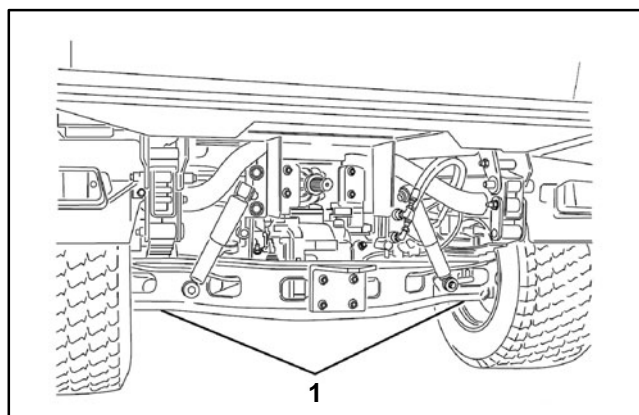

Figure 2
4. The jacking point at the rear of the vehicle is under the axle tube (Fig. 2).